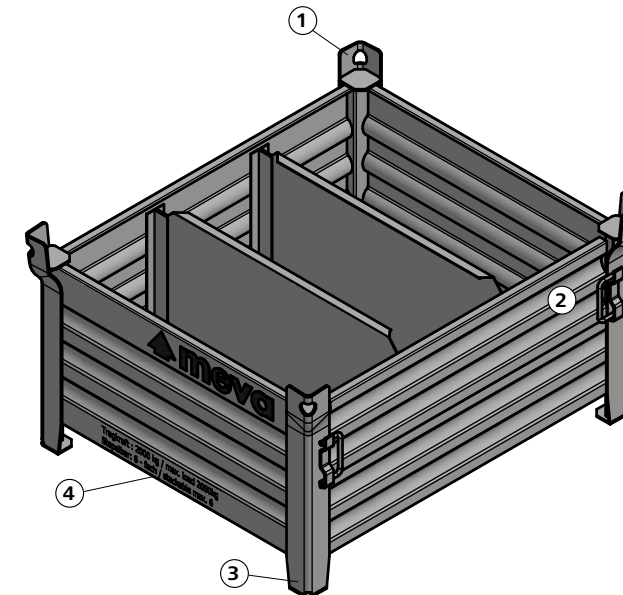

Fig. 9
Any contamination on the on the stacking frame (① Fig. 9) of the storage box 120/100 must be completely removed.